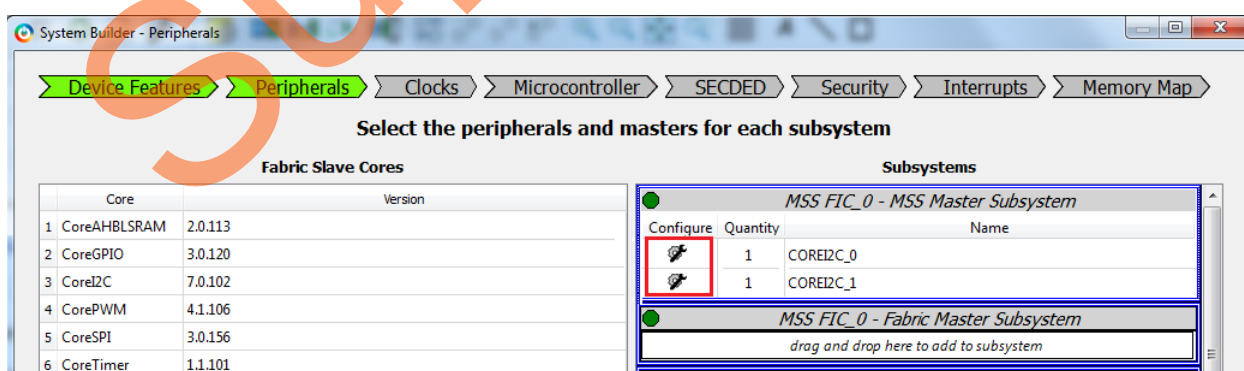

Figure 9 • CoreI2C Configure Icon
2. Configure two instances of CoreI2C by clicking **Configure** as shown in Figure 9.